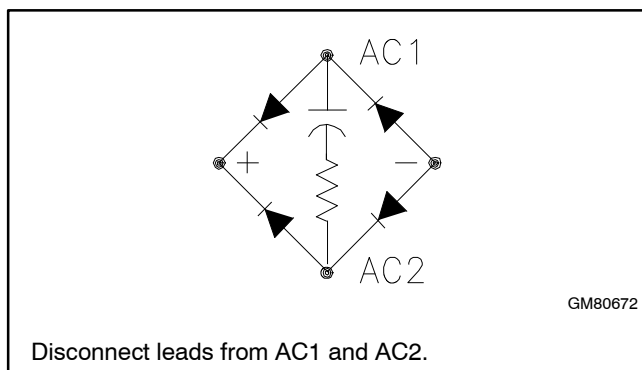

Figure 5-17 Rectifier Connections, Typical
1. Disconnect the leads from AC1 and AC2 of the rectifier for the emergency source (lower) coil. See Figure 5-17 and the wiring diagram in Section 6.